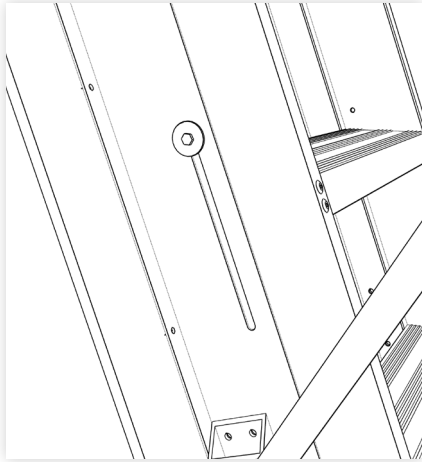

figure 10
3. The ladder can be adjusted up 45mm or down 45mm. Loosen the screws located through the slots where the the top section stringers are fitted to the support frame. Move the whole ladder up or down the runners as necessary to ensure that the rubber feet are firmly on the floor and the ladder sections are closing neatly where hinged. When properly adjusted to height tighten the screws in the slots. (Note; On the A31 the adjustment bolts may be hidden behind a spring.) Fig 10.